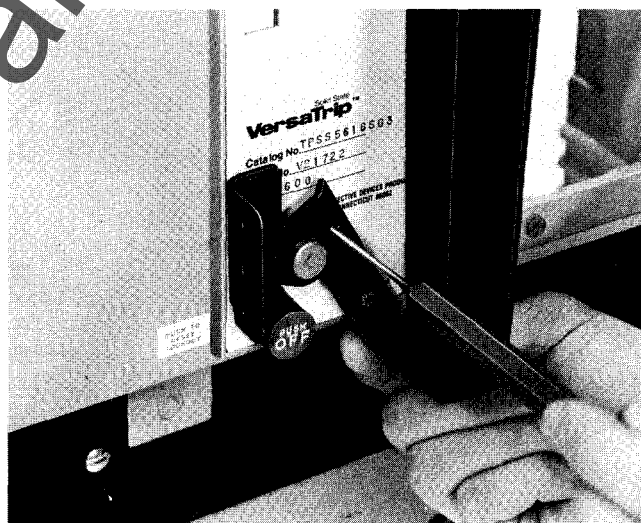

Figure 46.
2. To defeat while breaker is "ON" or "CHARGED", depress spring and rotate to clear door. (Fig. 46).